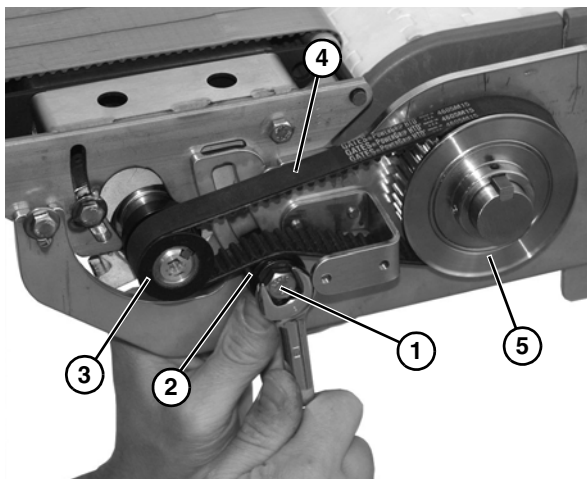

Figure 24
2. Loosen tensioner screw (Figure 24, item 1), and slide tensioner (Figure 24, item 2) downward.
3. Slide driven pulley (Figure 24, item 3) outward and remove timing belt (Figure 24, item 4) from driven pulley and drive pulley (Figure 24, item 5).